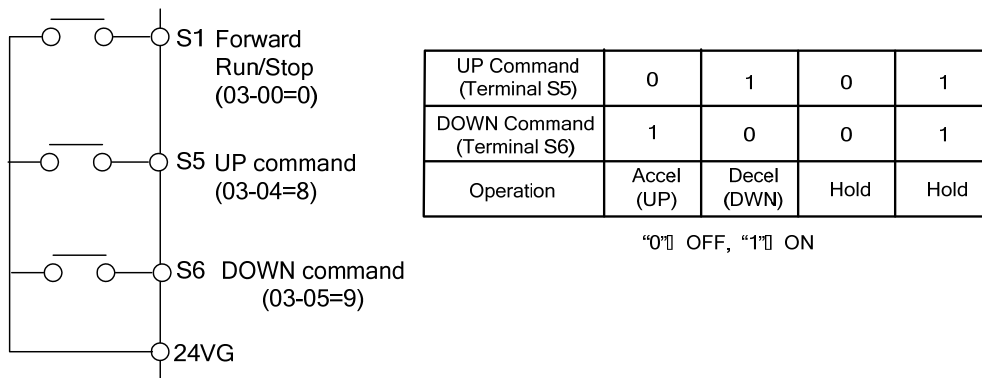
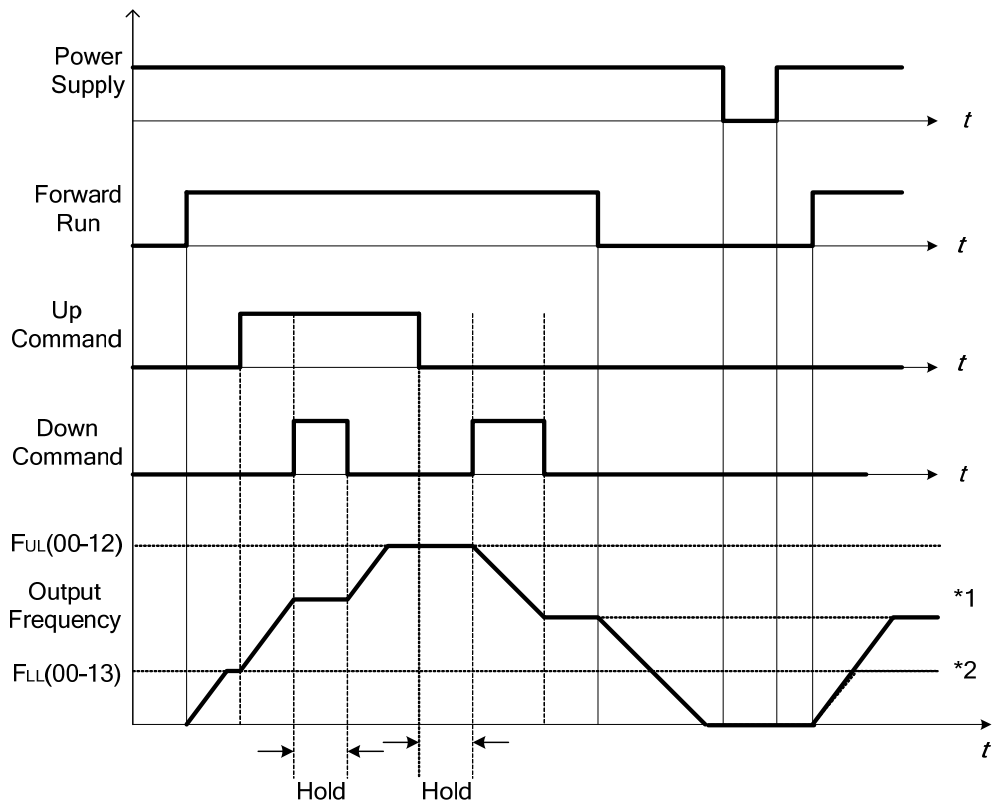

Figure 4.3.19 UP/DOW and operation example
Figure 4.3.20 Up / Down command timing diagram
(10) 03-0X =08 : UP frequency command
(11) 03-0X =09 : Down frequency command
- ①. When only the UP or DOWN command function is programmed to the digital inputs.
- ②. When both DOWN command and Inhibit Acceleration/deceleration command are activated simultaneously
- ③. When both UP command and Inhibit Acceleration/deceleration command are activated simultaneously.
- For the examples of UP/DOWN control wiring and operation, please refer to figure 4.3.19 and figure 4.3.20 .